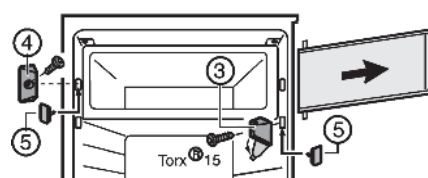

Fig. 3
- ▶ Fold away the cover of the turn hinge Fig. 3 (4).
- ▶ Unscrew turn hinge Fig. 3 (3) together with compartment door.
- ▶ Unscrew closing element Fig. 3 (4).
- ▶ Close the vacated holes with the accompanying stoppers Fig. 3 (5).